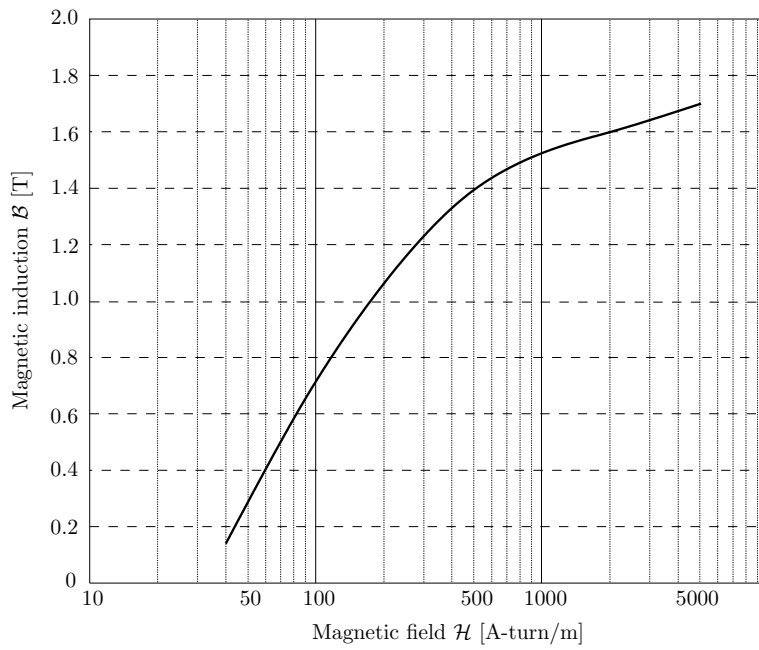

Figure 2
- The current  $I_1$  that leads to a 0.15 T magnetic induction in the air gap, assuming  $I_2 = 0.8$  A and the magnetization curve shown in Figure 2.